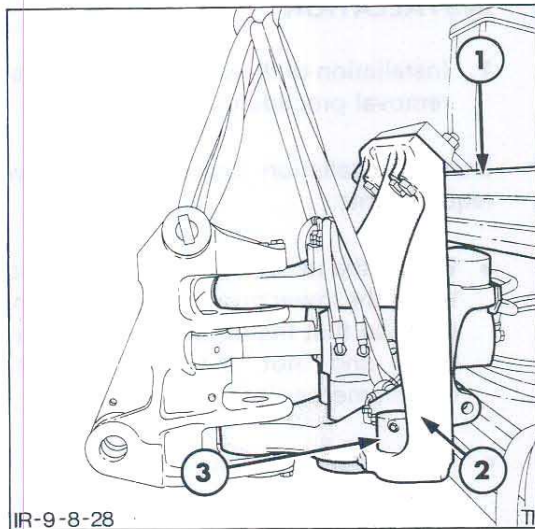

Figure 28
8. Remove the bolt securing each clamping cylinder bellcrank pivot pin. Withdraw the pins and remove the bellcranks. Refer to Figure 28.
9. Ease the base of the carriage forwards and lift the carriage from the mainframe, Figure 28.